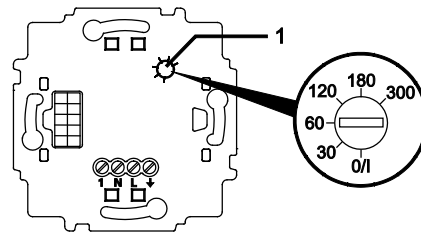

Fig. 1: Insert with selector potentiometer
- Set the selector potentiometer (Fig. 1 (1)) on **0/I**.
- Set the selector potentiometer (Fig. 1 (1)) to the desired value.